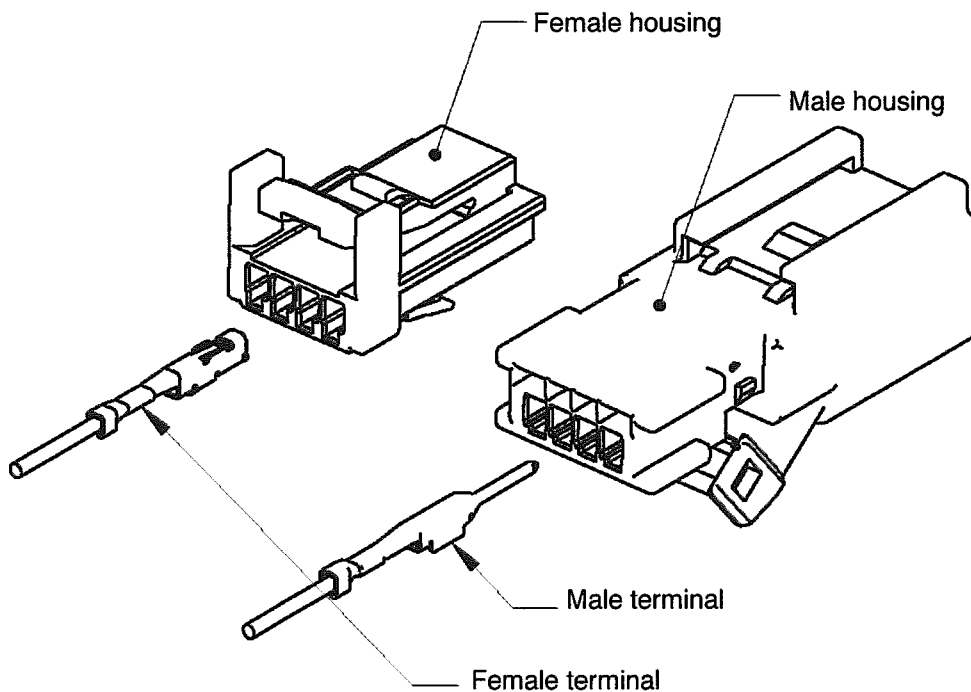

Fig.8
- (3) Insert the terminals into the housing with same direction as shown in Fig. 8. The insertion is finished when the lance is locked and the terminal cannot be inserted more.